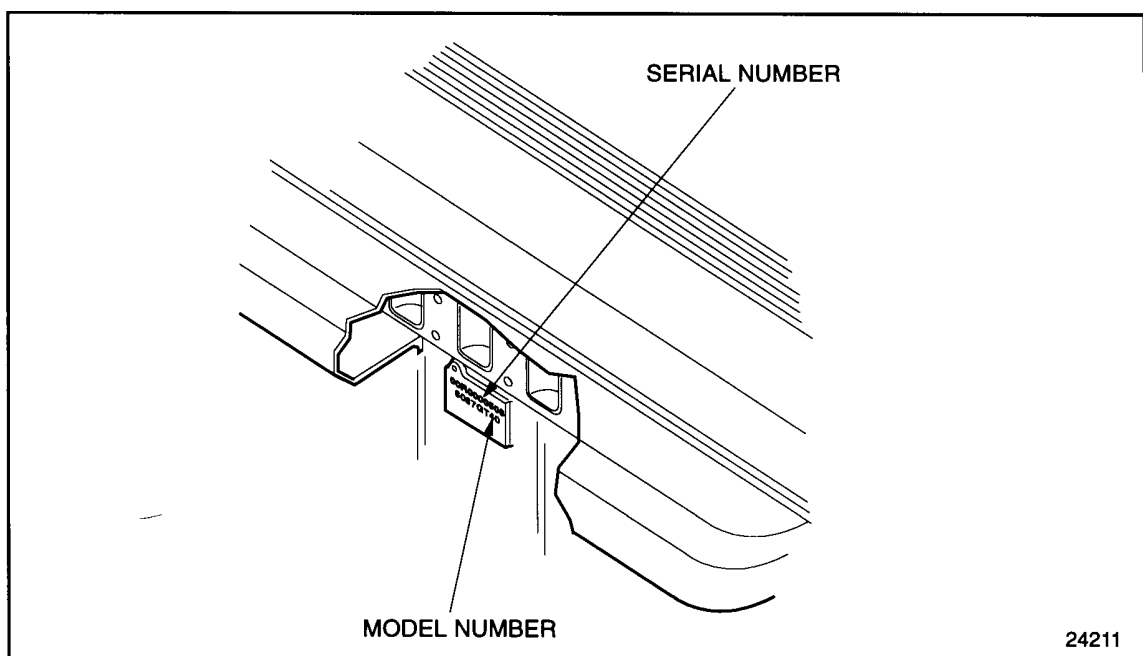

Figure 1-16 Location of Engine Serial and Model Numbers
2. If a new service replacement block is used, stamp the engine serial number and model number on the pad provided on the left side of the block, just below the deck. See Figure 1-16.